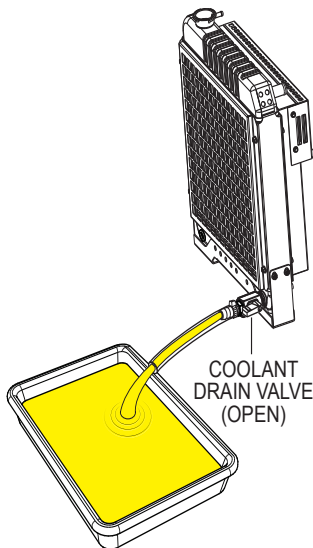

Figure 77. Draining The Engine Coolant
2. Place the *coolant drain valve* in the **OPEN** position (Figure 77) and allow the coolant to drain into a suitable container.